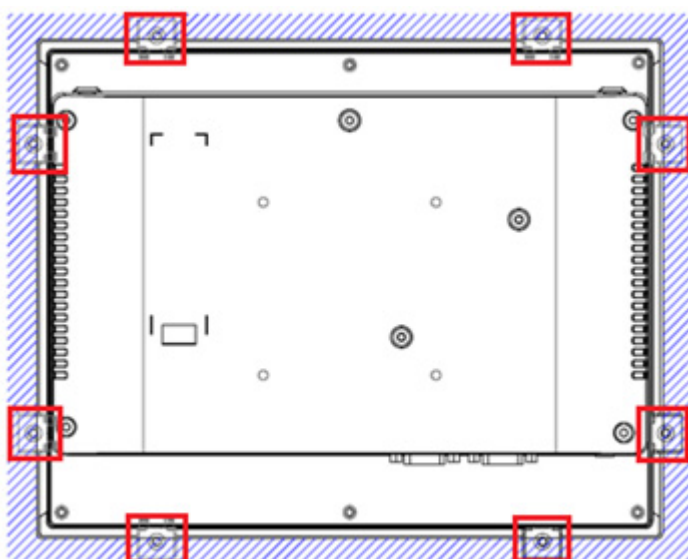

Figure 2.33 Panel mount rear view
2. Align the retention screw holes on the mounting arm interface with VESA holes in the panel PC, and secure the panel PC by four M4 retention screws. (see Figure 2.33)